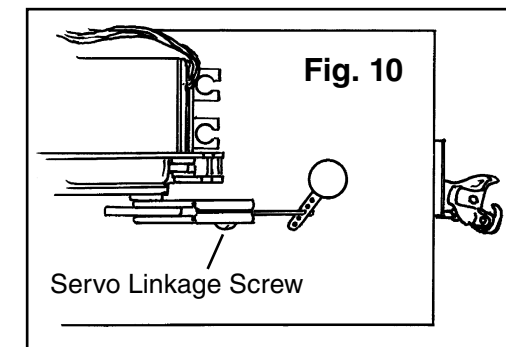

Fig. 10
**16)** Adjust upper link rods until coupler knuckle opens completely and coupler moves slightly. see **Fig. 10**
**18)** Tighten servo linkage screws 1/8 turn to lock link rod position. see **Fig. 10**